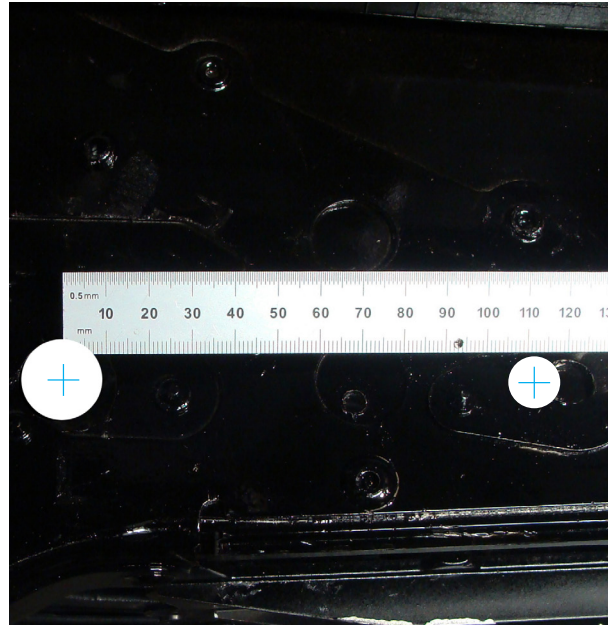

Figure 4: first mark for drill hole (left), front torque arm mounting bolt (right)
1. You will need to drill a hole in the rider's right (MAG) side tunnel for the wiring harness to route through. Measure 120 mm (4.724 in) forward of the front torque mounting bolt and make a mark (Figure 4). All measurements and figures shown are taken from the inside of the tunnel, NOT from the outside. We recommend drilling from the inside of the tunnel.